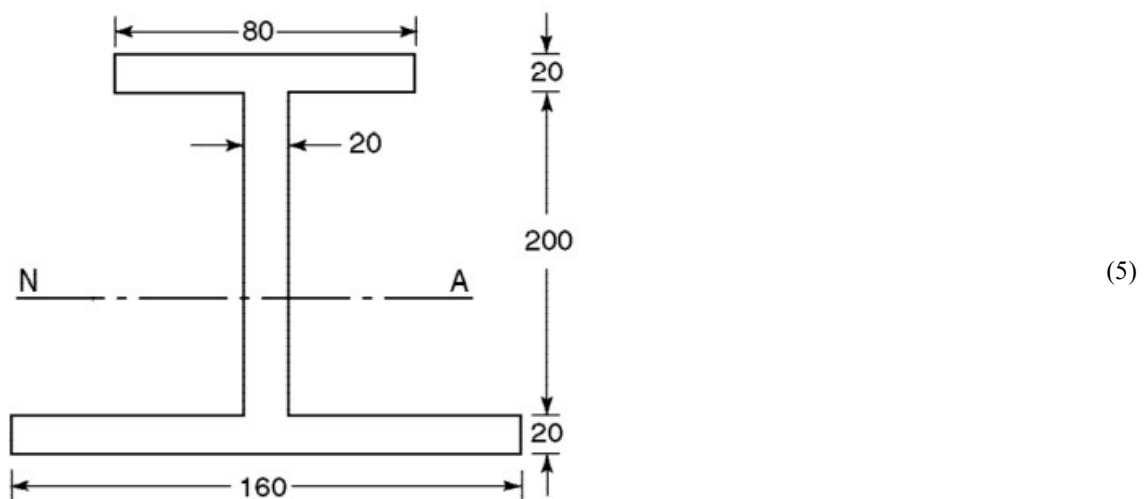

Figure 5
- B) The unsymmetrical I-section shown in the figure 5, is subjected to shear force of 40kN. Draw the shear stress variation diagram across the depth